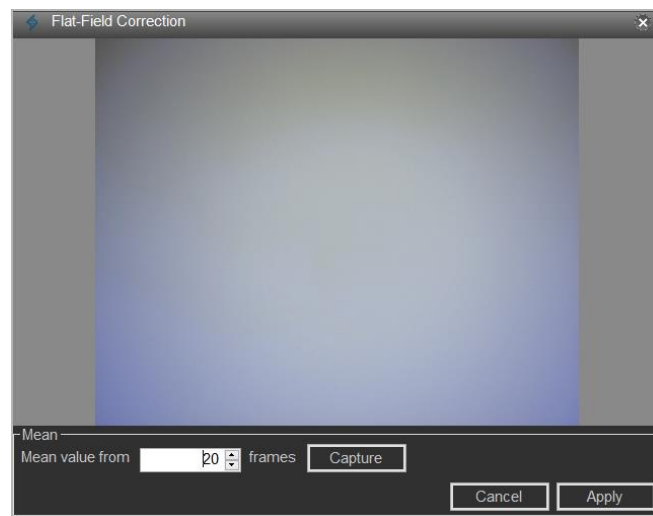

Figure 16. Flat-Field Correction Dialog Box
4. Click on the **Flat-Field Correction** button and a dialog box will appear (figure 16).